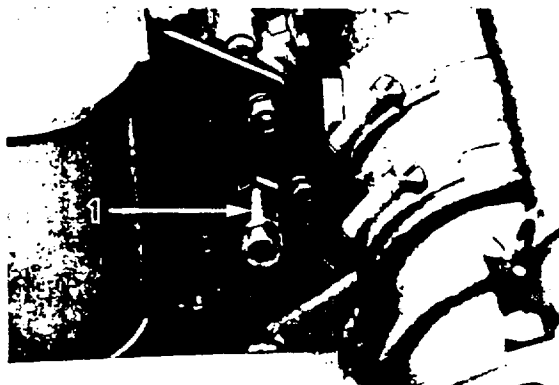

Fig. 11 (e)
1. Screw out anti-stall device by two or three turns (refer to Fig. 11 (e) for V8.510 engines).